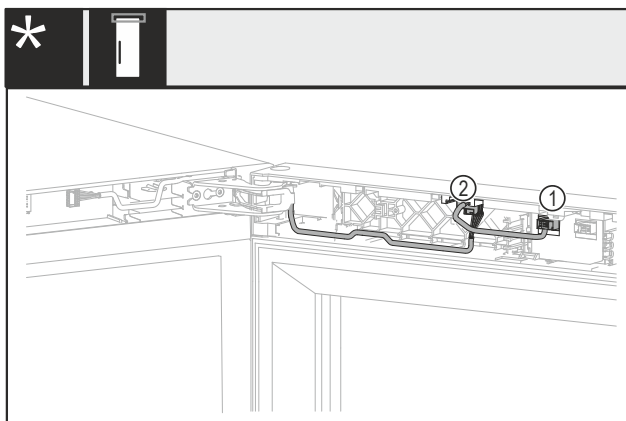

Fig. 18 Without lock or with mechanical lock*
- Pull out the plug Fig. 18 (1)*
- Pull out the plug Fig. 18 (2)*